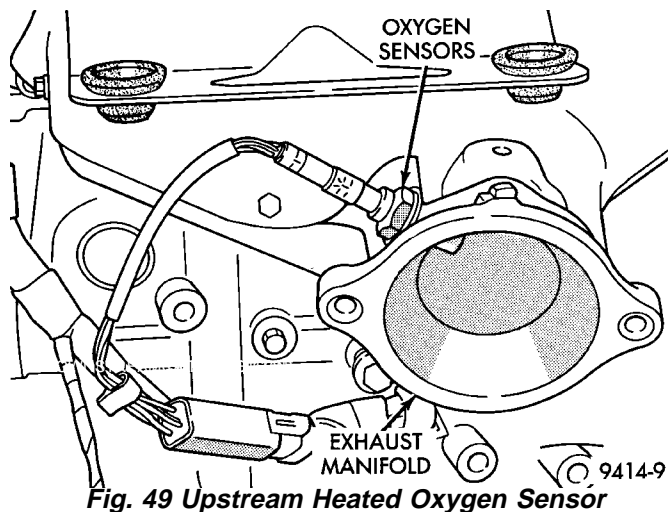
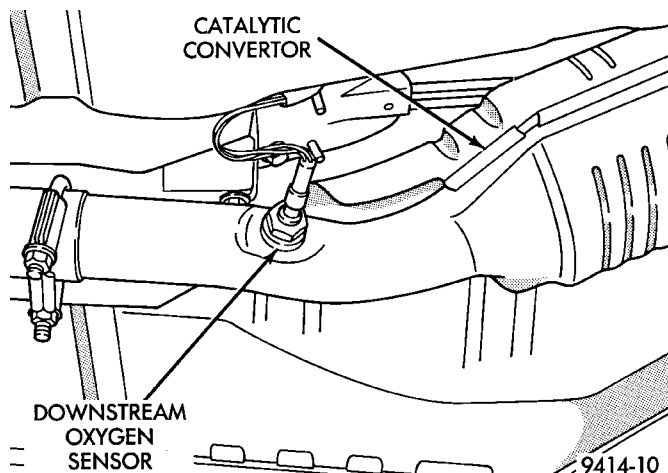

Fig. 49 Upstream Heated Oxygen Sensor
Fig. 50 Downstream Heated Oxygen Sensor
(22) Inspect the electrical connections at the upstream and downstream heated oxygen sensors (Fig. 49) and (Fig. 50).